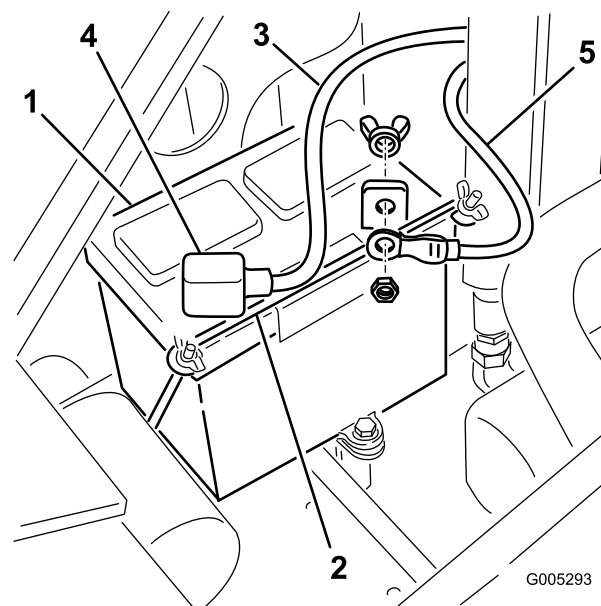

Figure 27
4. Remove the wing nuts and bar securing the battery (Figure 27).
9. Install the battery into the chassis (Figure 27).
10. Secure the battery in the chassis (Figure 27).
positive (+) battery post (Figure 27). Slide the rubber cover over the battery post.
12. Using the bolt and wing nut supplied with the battery, connect the negative (black) cable to the negative (-) battery post (Figure 27).